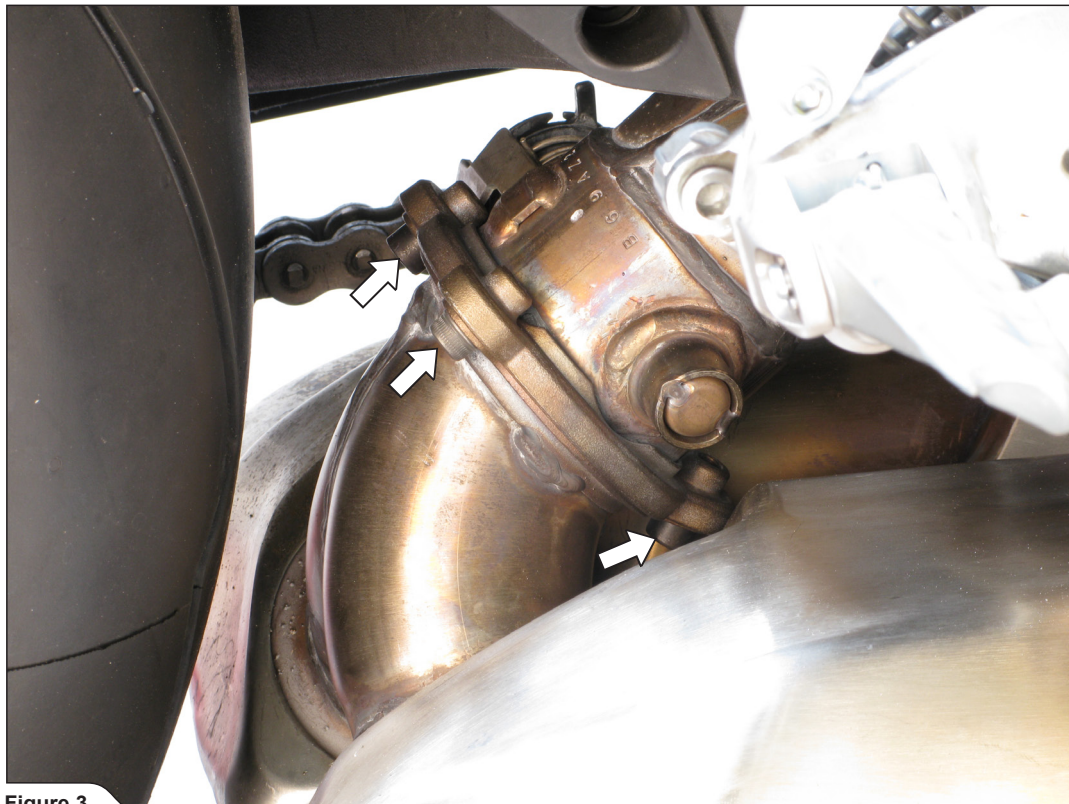

Figure 3
3. Unscrew the marked bolts and nuts on both sides. Carefully remove the muffler off the motorcycle (Figure 3, 4).